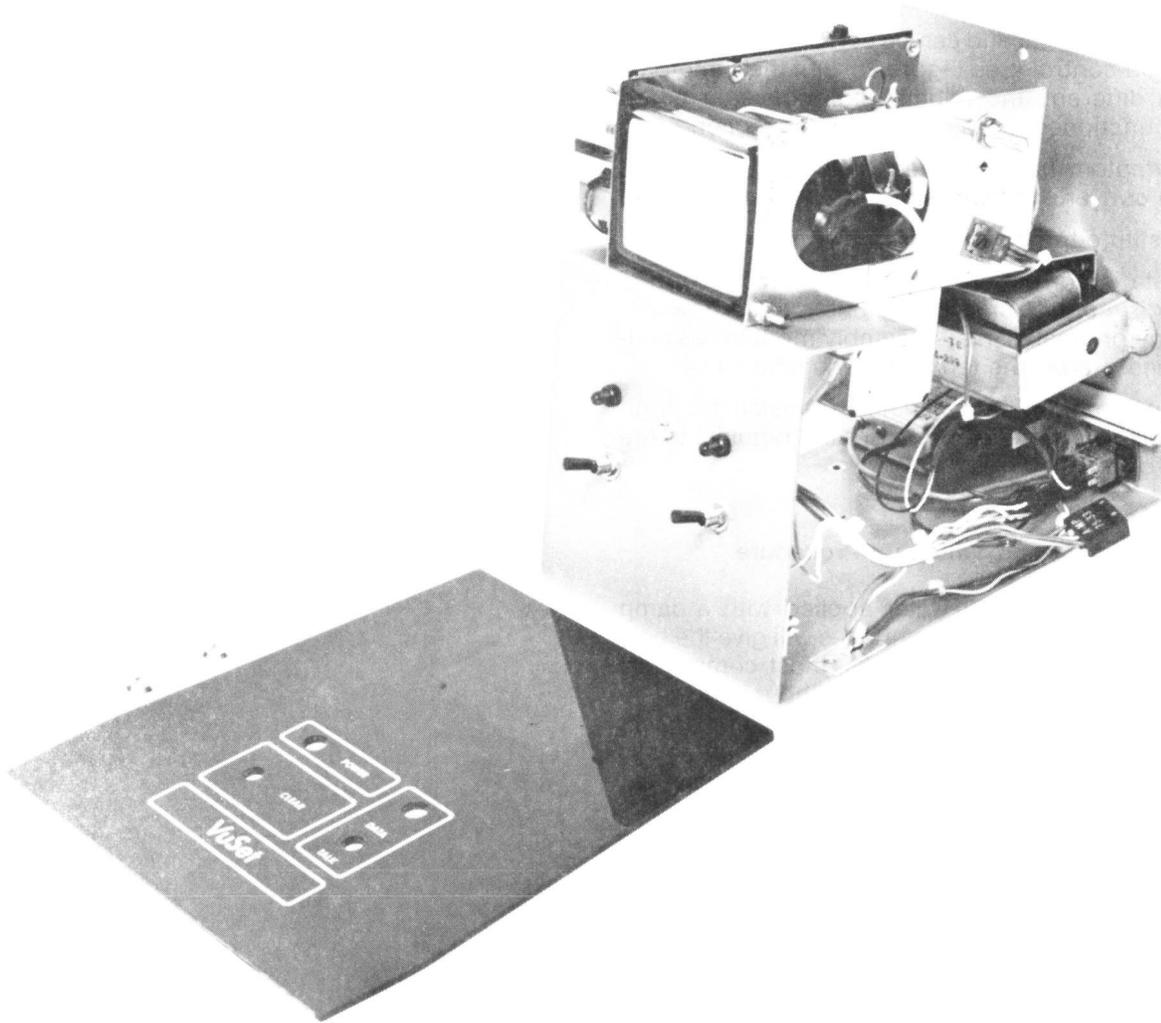

Figure 28, Front Panel Removal
- a) Remove the nuts on the DATA/TALK and CLEAR switches with a 7/16" open end wrench, being careful not to mar the plastic front panel. The front panel should now be free from the toggle switches. (See Figure 28)